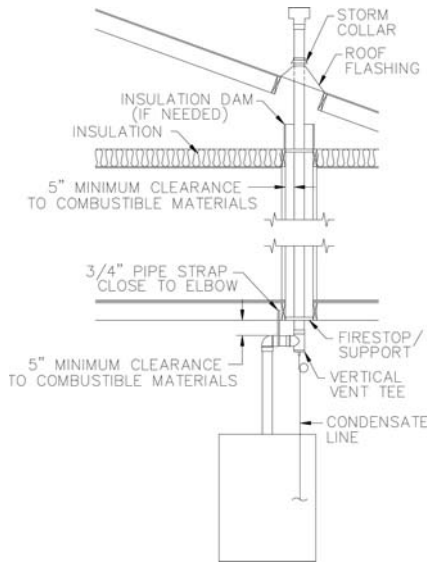

Figure 16: Vertical Vent Installation
1. Install vertical vent drain tee (see Table 7 for part number). See Figure 16. Attach tee directly to elbow or horizontal pipe from elbow.